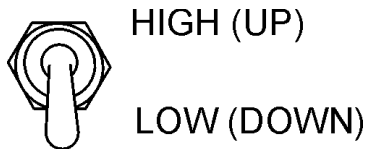

Figure 51. Engine Speed Switch
2. Set the engine speed switch (Figure 51) to the idle (low) position (If optional part installed).